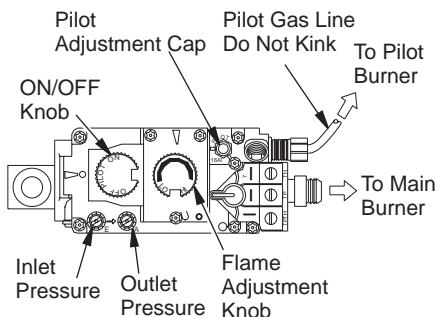

Figure 44 - Millivolt Control Valve
The millivolt system with a manual HI/LO applies only to the (V)DVF36TPNA/TSDTA and (V)DVF36TNPA/TSTPA models. Gas control valve is accessible from lower control compartment. Two pressure taps are provided on gas control valve for a pressure gauge connection (see Figure 44).